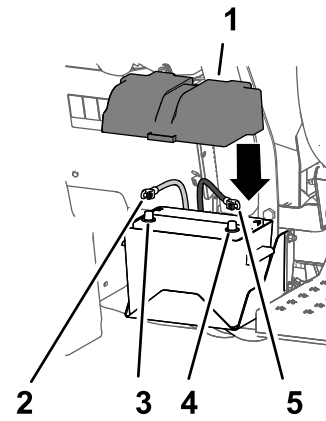

Figure 68
1. Connect the positive battery cable to the positive post of the battery (Figure 68).
2. Connect the negative battery cable to the negative post of the battery (Figure 68).
3. Align the battery cover to the battery box and secure the cover with the strap (Figure 68).